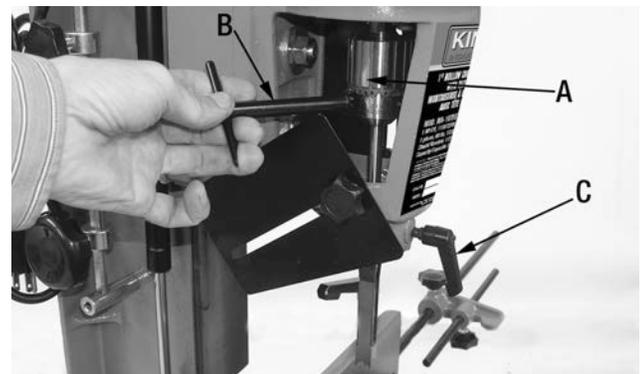

FIGURE 8
Secure the bit in the chuck (A) Fig.8 using the chuck key (B) supplied. Loosen lock knob (C) and push chisel up all the way into the head and retighten lock knob.